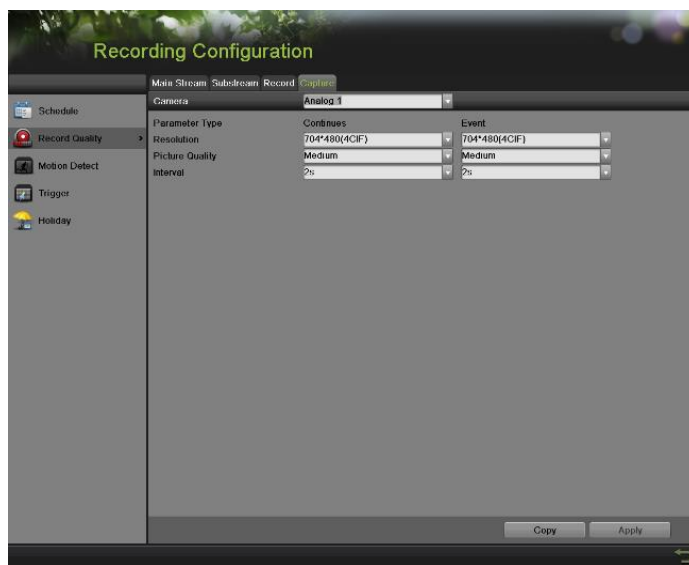

Figure 83 Capture Quality Settings Menu
1. Enter the Capture interface, shown in **Figure 83** by going to Menu > Recording Configuration > Recording Quality > Capture.